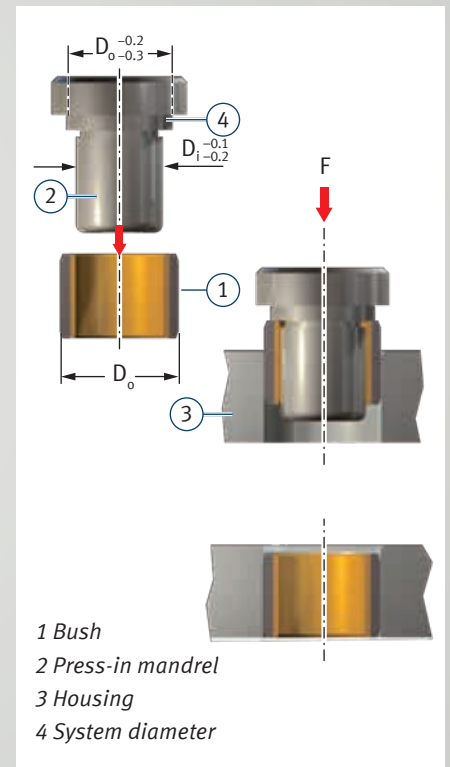

Fig. 52: Recessed press-fitting $D_o \geq 55$ mm
- Recessed press-fitting with mandrel, without auxiliary ring, as per Fig. 52.